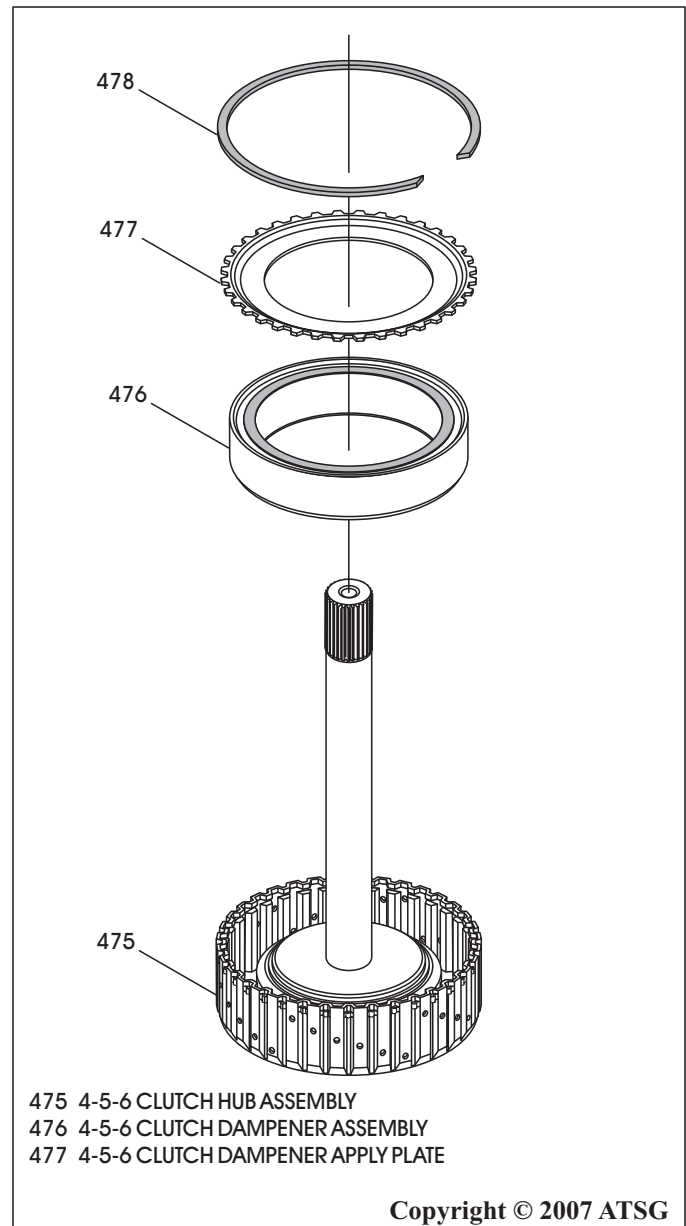

Figure 85
3. Install the 4-5-6 dampener into the 4-5-6 clutch hub in the direction shown in Figure 85, with smooth side of dampener material facing up.
4. Install the dampener apply plate in the direction shown in Figure 85.
5. Install the 4-5-6 clutch dampener snap ring, as shown in Figure 85, and ensure snap ring is fully seated.